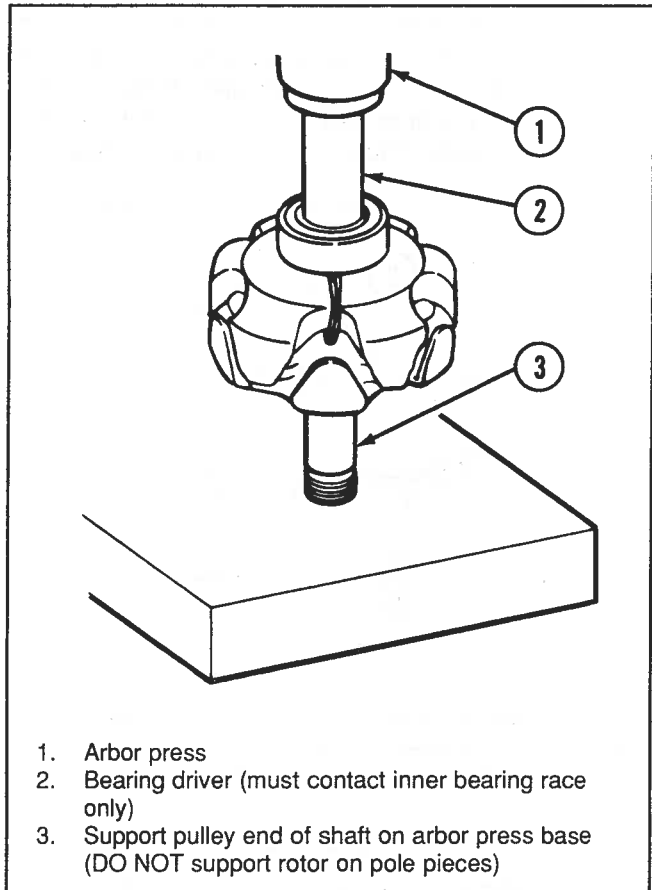

Figure 6-107. Pressing Bearing Onto Rotor
1. Press new rear bearing all the way onto rotor shaft until inner race contacts shoulder. Use an arbor press and a bearing driver that contacts inner bearing race only. Use extreme care to prevent damage to field-winding leads. See Figure 6-107.